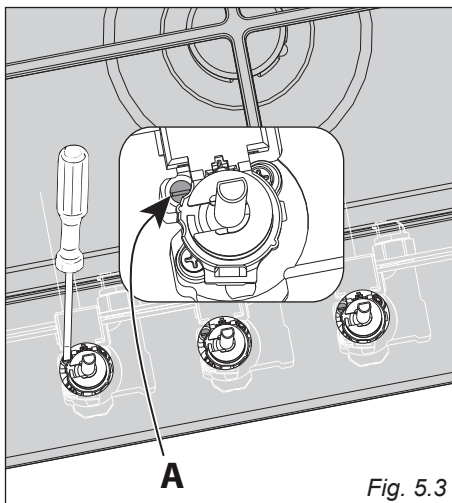

Fig. 5.3
- With a small flat screwdriver turn the screw "A" to the correct regulation (fig. 5.3).